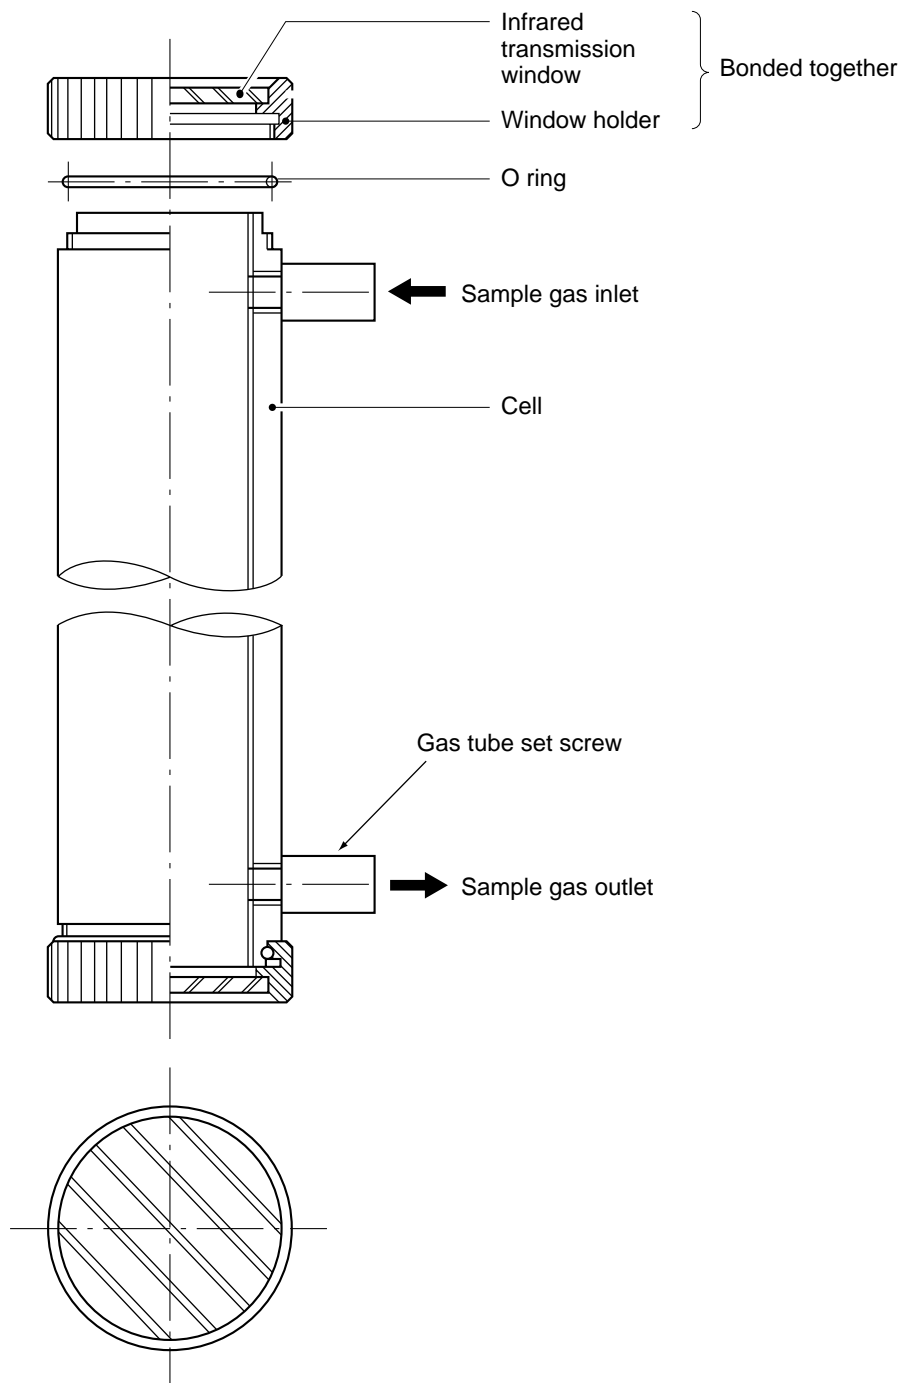

Fig. 5-2 Structure of sample cell (pipe cell)
- ④ Turn to the left the sample cell window and remove it from the sample cell (see Fig. 5-2).
- ⑤ For cleaning the window and cell inside surface, first eliminate coarse dust by soft brush or the like and then wipe them by soft rag.